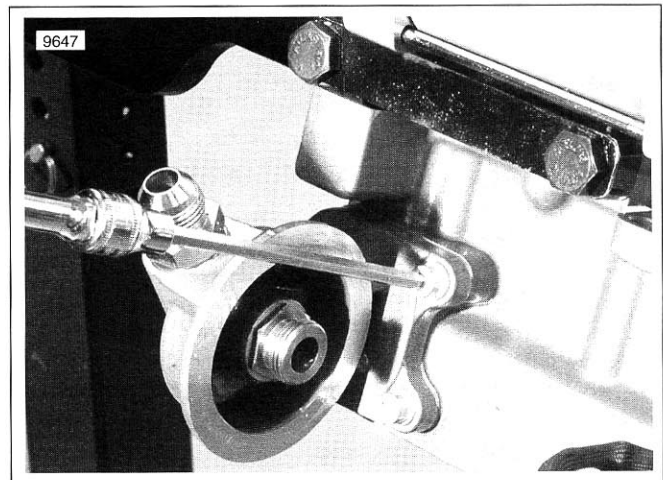

Figure 3-234. Remove Oil Filter Mount Fasteners
1. See Figure 3-234. Remove three fasteners and remove oil filter mount.